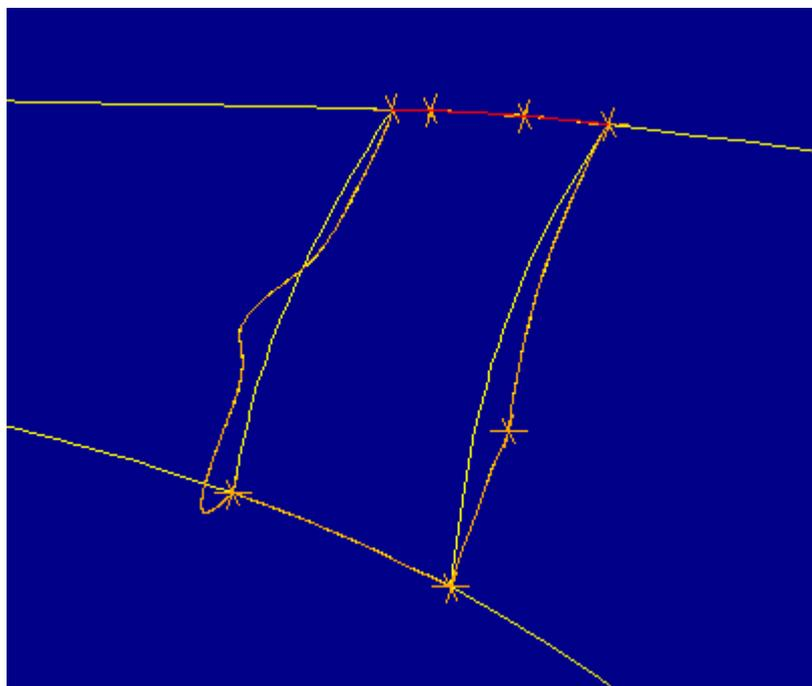
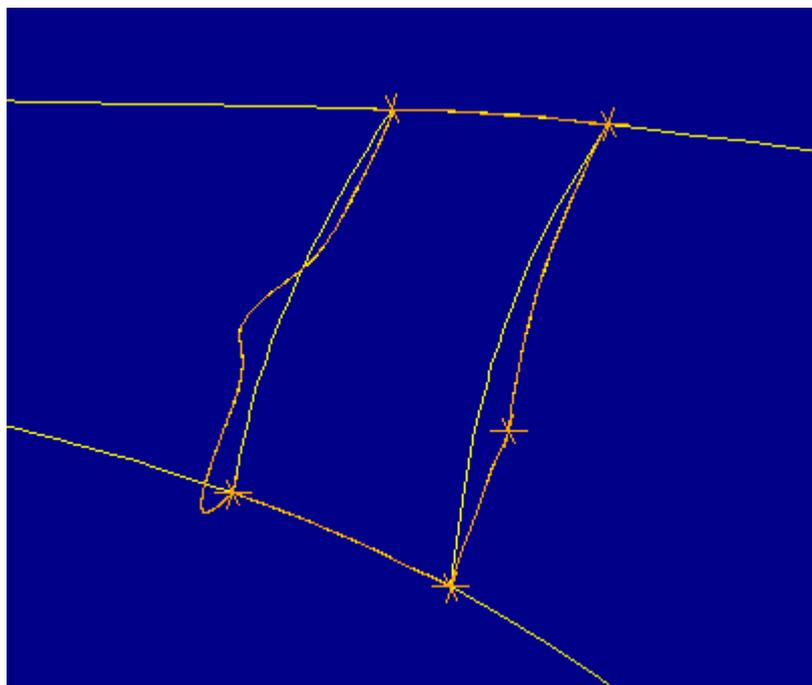

Figure 32
Figure 33
22. In the MODIFY EDGS menu select **Merge Edges**. Select the two orange vertices at either end of the top edge and in the CHOOSE menu **Accept** the chain highlighted in red in Figure 32. Figure 33 shows the resulting edge.